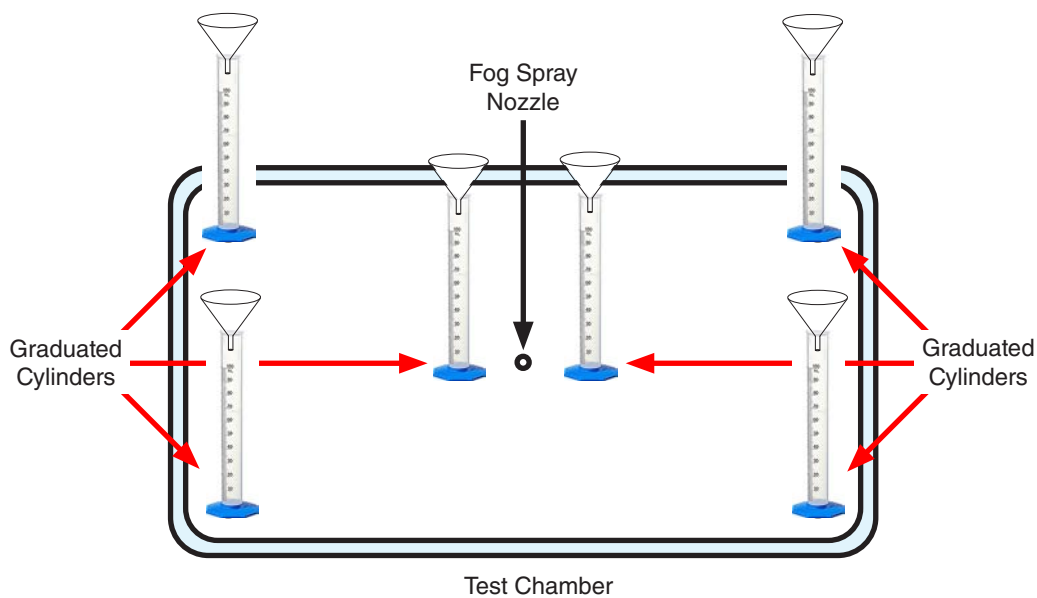

Figure 12.3a: Collection vessel placement - test chamber top view.
- The recommended placement is one of these vessels in each corner of the test chamber with at least a 5 cm gap between the edge of a funnel and the wall, and a vessel on each side of the fog spray nozzle approximately 15 cm from the nozzle (see Figure 12.3a).